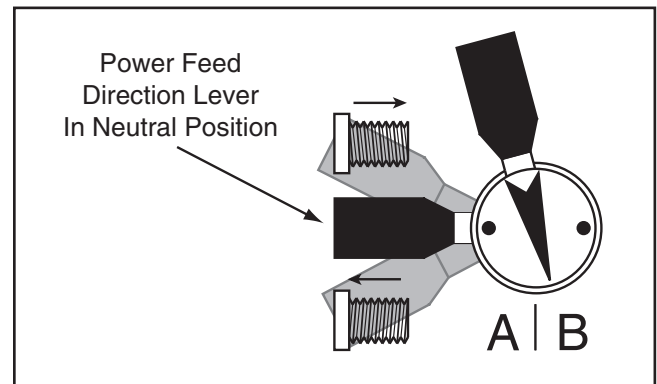

Figure 61. Power feed direction lever.
2. Use the power feed direction lever to select the rotation direction of the feed rod (see the illustration in **Figure 61**).